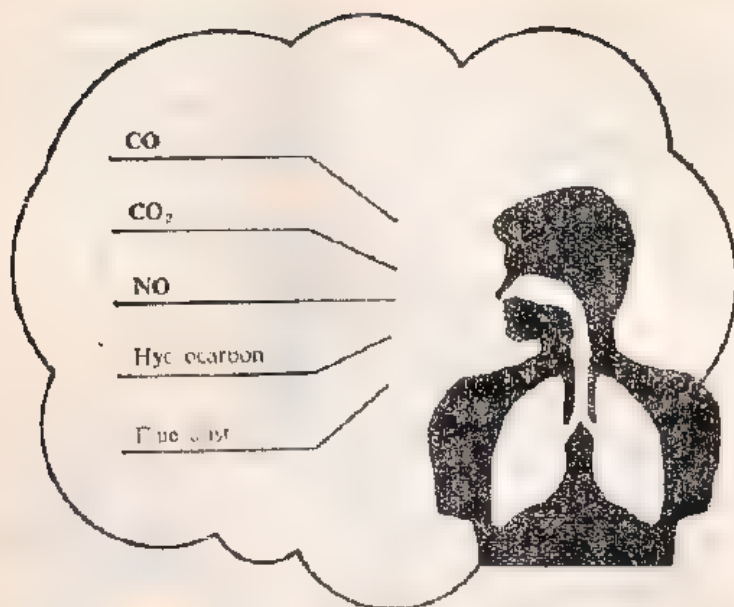

Fig. 43 The main pollutant of air
42). Waste gas includes flue dust, carbon monoxide, carbon dioxide, sulphur dioxide, carbon hydride, nitrogen oxide etc. (Fig. 43). The total amount of such waste gas emitted worldwide can possible be over 600 million tons per year.